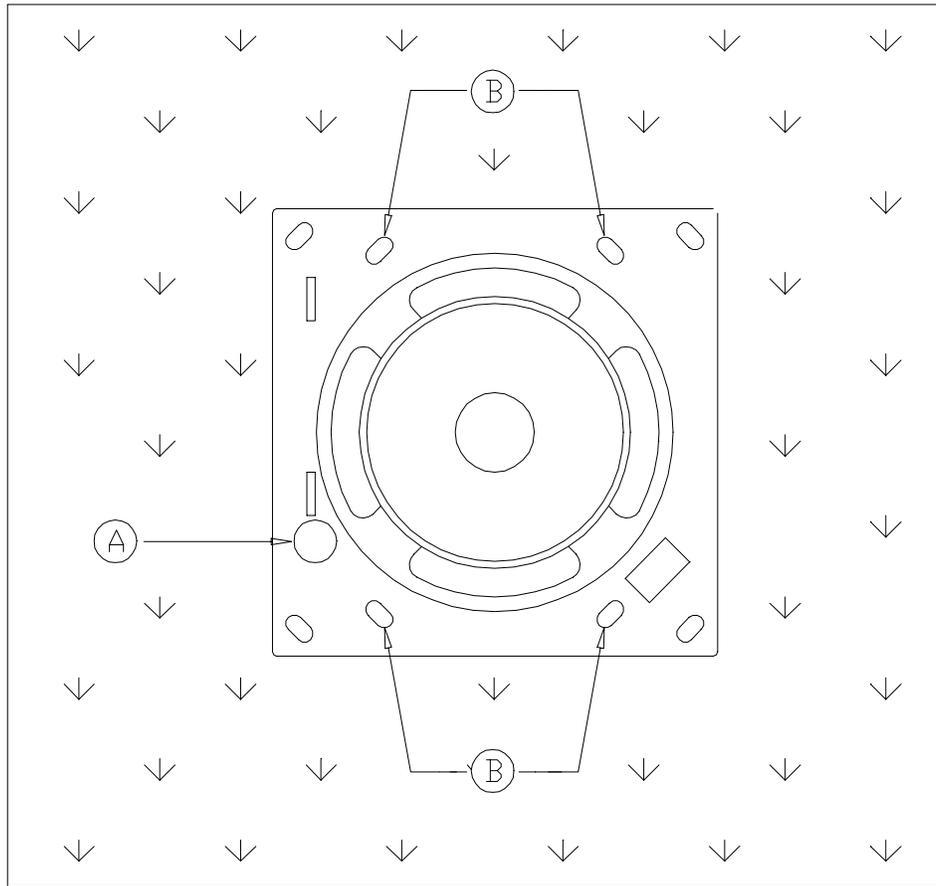

Figure 2 - Mounting the Speaker/Microphone Assembly
7. Route the microphone wires from the Two-Way Voice Module through the hole in the speaker/microphone assembly marked "A" in Figure 2.
8. Line up mounting holes marked "B" in Figure 2 with wall anchors (from step 1). Secure speaker/microphone assembly to wall using the provided screws.